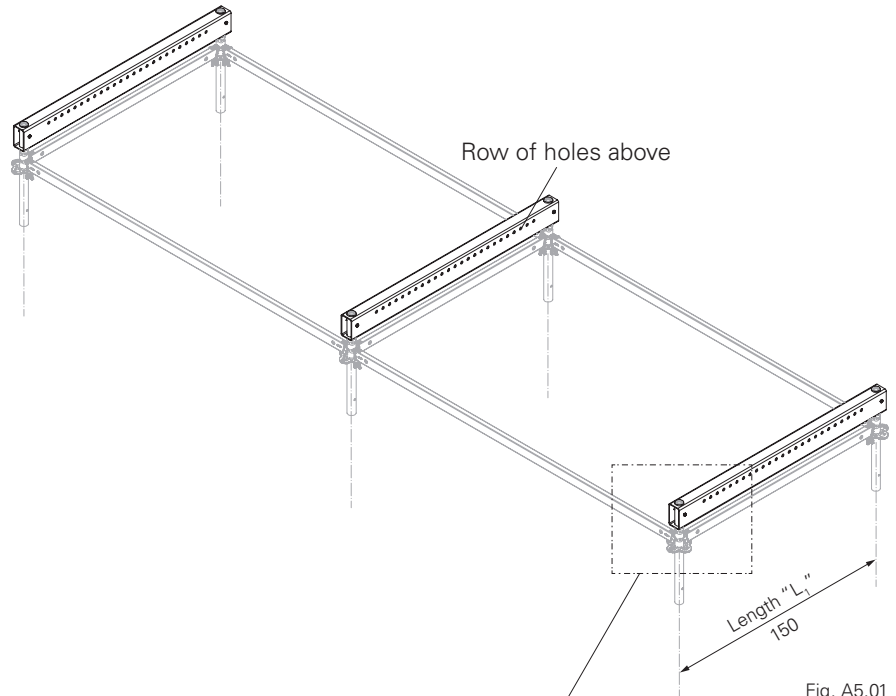

Fig. A5.01
1. Insert 3x Ledgers URL (**15**) into the standards. Ensure that the row of holes is at the top. (Fig. A5.01 + A5.01a)